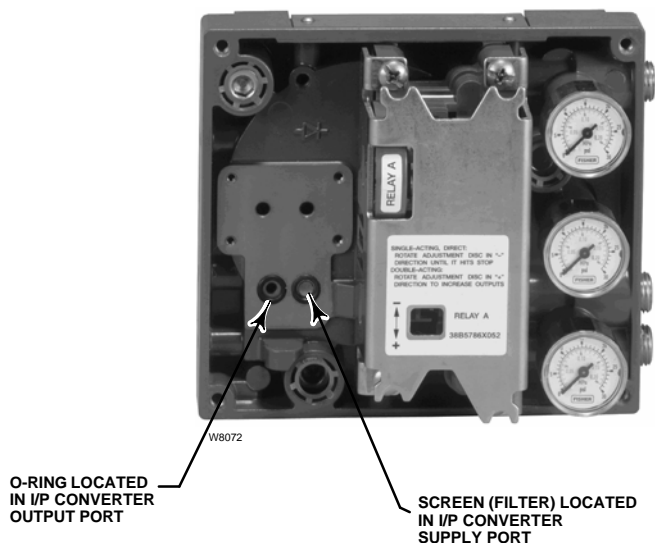

Figure 7-3. I/P Filter Location
1. Remove the I/P converter (key 41) and shroud (key 169) as described in the Removing the I/P Converter procedure.
2. Remove the screen (key 231) from the supply port.
3. Install a new screen in the supply port as shown in figure 7-3.
4. Inspect the O-ring (key 39) in the I/P output port. If necessary, replace it.
5. Reinstall the I/P converter (key 41) and shroud (key 169) as described in the Replacing the I/P Converter procedure.
1. Refer to figure 7-3. Inspect the condition of the O-ring (key 39) and screen (key 231) in the module